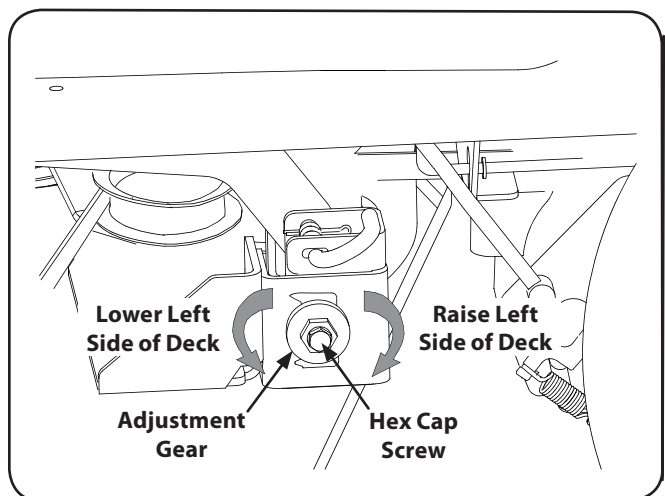

Figure 6-7 (50'')
- Loosen, but do not remove, the hex cap screw on the left deck hanger bracket. Refer to Figure 6-7.